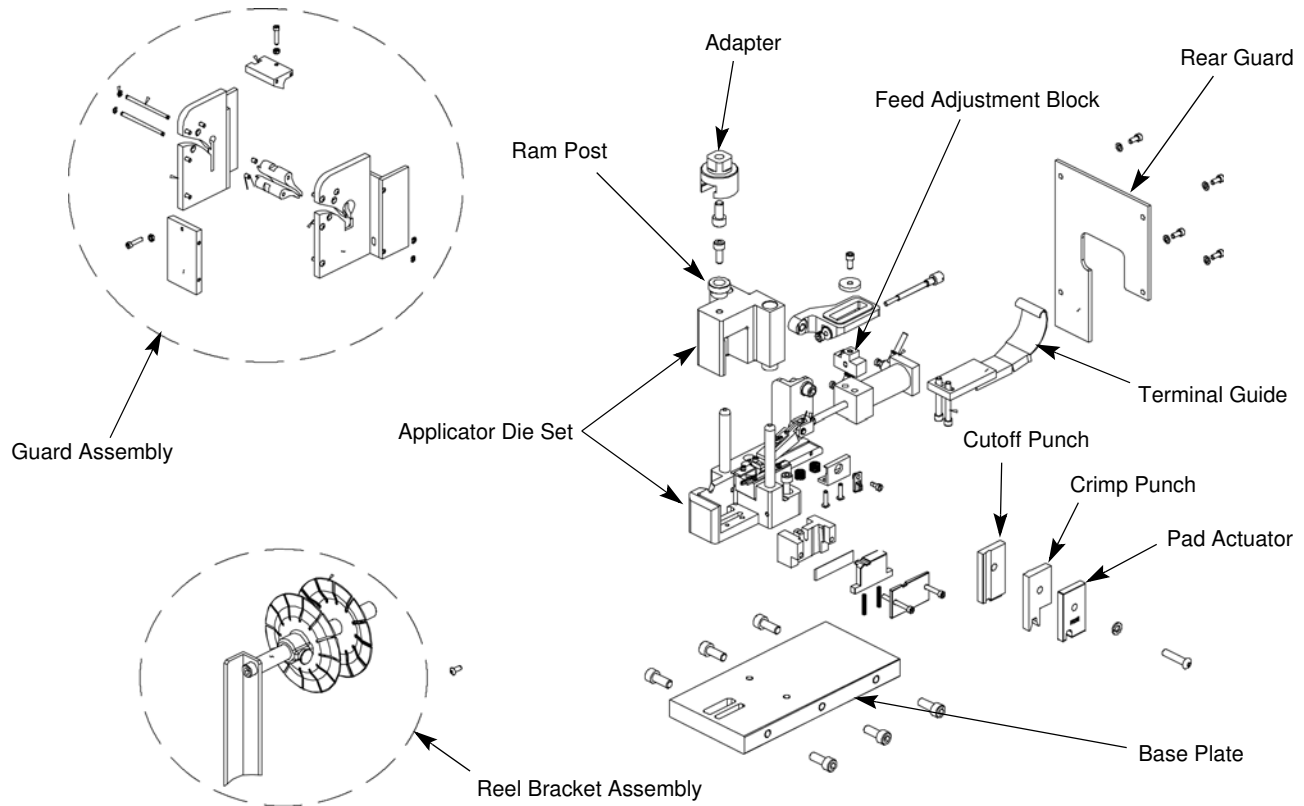
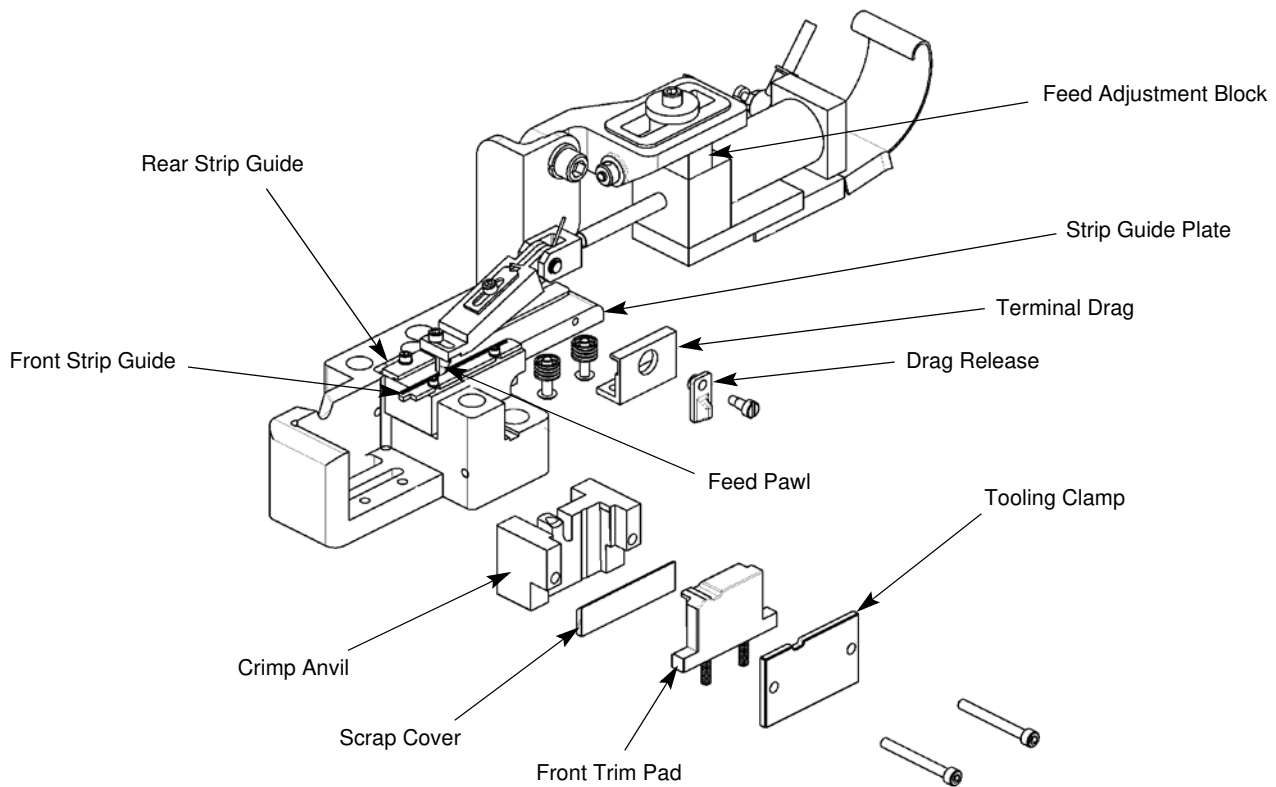

Figure 2
Figure 3
The main components of the applicator are identified on the print of the applicator. See also Figure 2 and Figure 3.
5.3. Terminal Drag Actuation (Figure 3)
7.1. Crimp Anvil Replacement (Figure 3)
7.2. Front Trim Pad Replacement (Figure 3)
7.3. Crimp Punch Replacement (Figure 2)
7.4. Cutoff Punch Replacement (Figure 2)